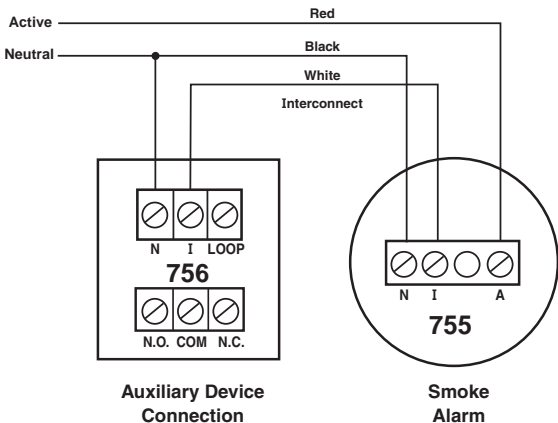

Figure 2: Connection to a single 755 Series Smoke Alarm
- Figure 2 illustrates the wiring diagram for connection of the 756 Isolation Unit to a single 755 Series Smoke Alarm. For connecting the Isolation Unit to any other type or model of smoke alarm please consult your nearest Clipsal Representative.